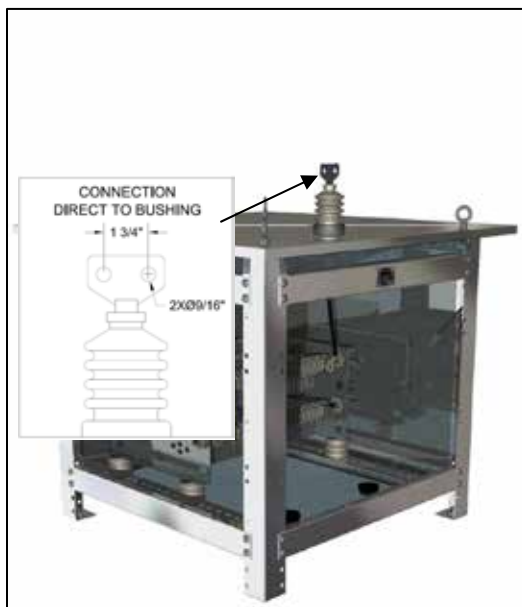

Figure 1: Bushing entry
1. The connection is made directly to a top-mounted entrance bushing. The bushing has a NEMA two-hole pad-type connector. (See Figure 1.)